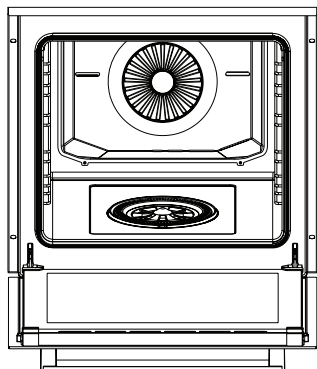
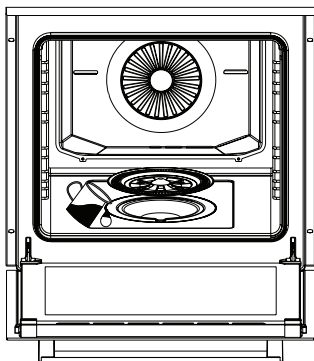
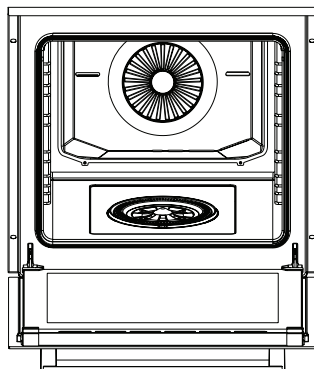

Figure 21
Figure 22
Figure 23
2. Open the cover of the appliance (See figure 21). Remove the water tank cover and fill the tank (See figure 22). Then, close the water tank cover (See figure 23). Close the cover of the appliance and preheat it for 10 minutes. After preheating, you can place the food in the appliance.